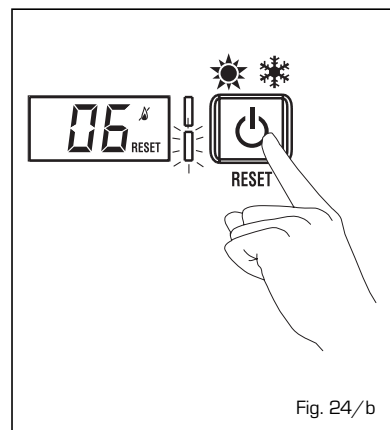

Fig. 24/b
– **ANOMALIE THERMOSTAT DE SÉCURITÉ “AL 07” (fig. 24/c)**